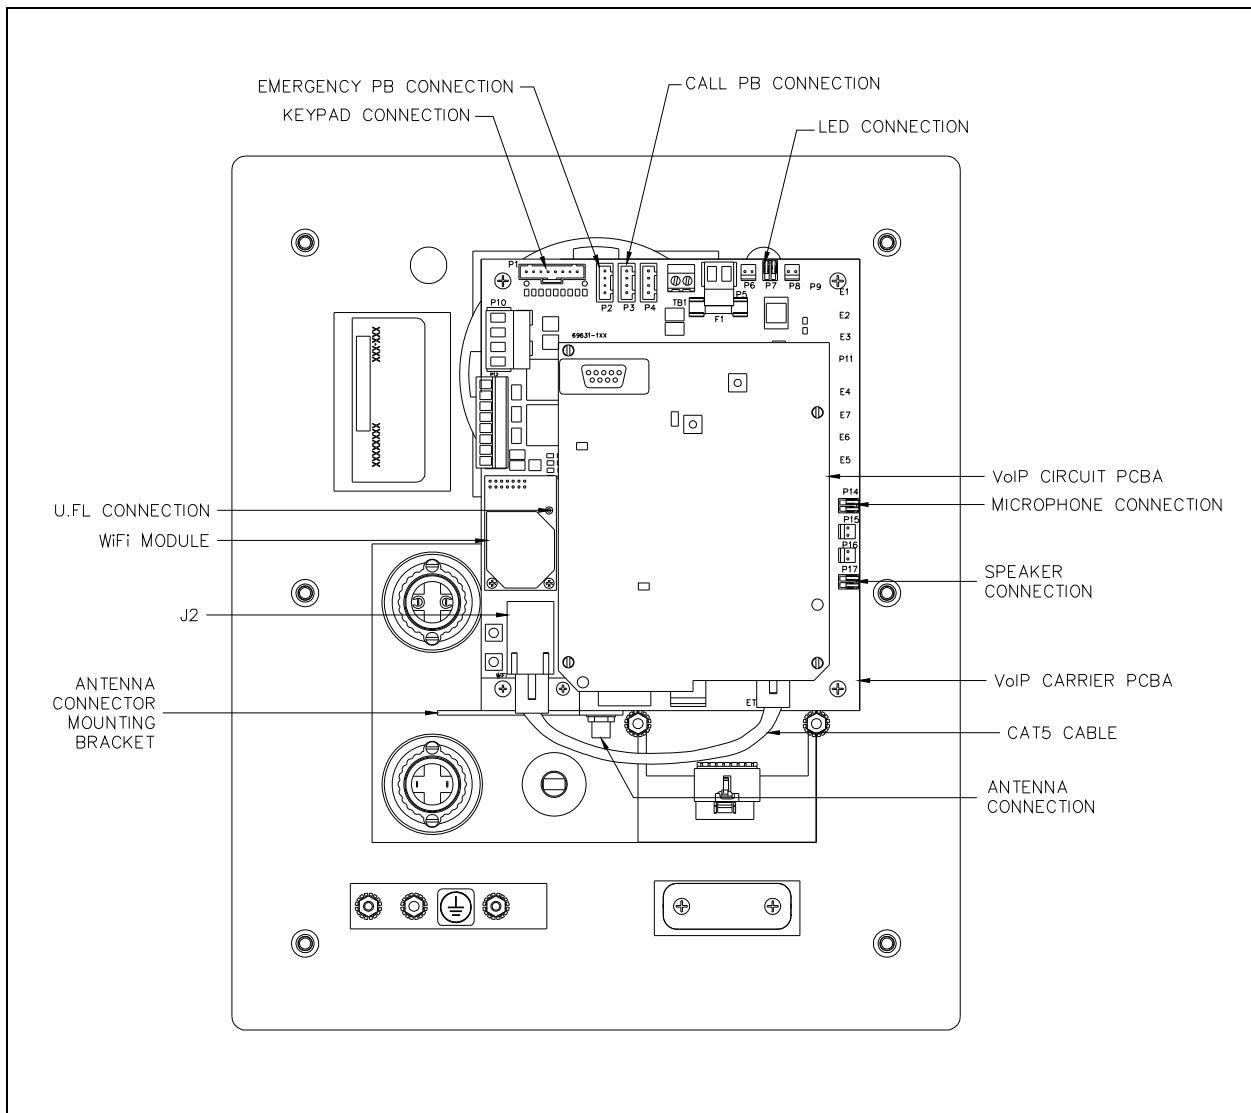

Figure 9. Models 397-800A, 397-801A, 398-801A, and 398-802A
- b. Model 398-802A: There will be a second push-button switch cable and a keypad cable connection. Record the location of each connection for later reconnection. See Figure 9.
2. Unplug the Cat5 cable from the J2 connector on the carrier PCBA. See Figure 9.
7. Reconnect the microphone, speaker, LED indicator and push-button switch cable. Note in step 2 of the previous section the additional connections for each model. See Figure 9.